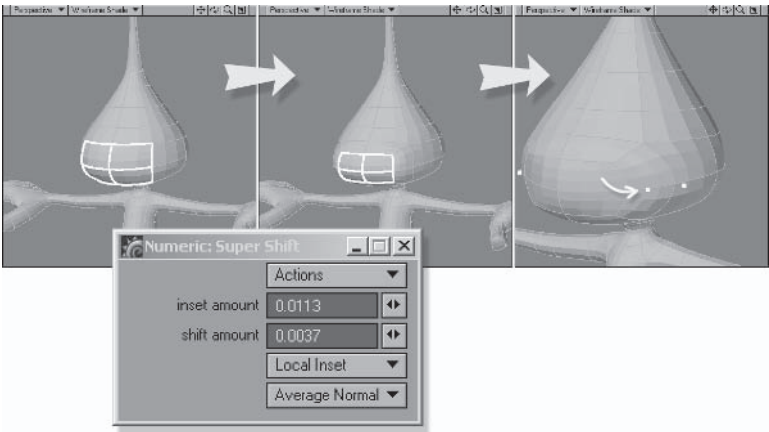

Figure 3.3-6. Use these settings for Super Shift.
1. Turn Symmetry on and select the front four polygons around the mouth. **Super Shift** with the settings shown in Figure 3.3-6. Then select the two points on each side of the mouth and **Move** them back and out to give the mouth area some extra width.